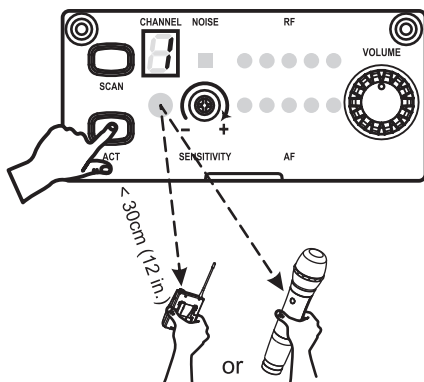

Fig. 4
III. ACT Synchronization. Fig. 4
2. Turn on the transmitter. Align the red color IR sync windows of both the transmitter and receiver at a distance of <30 cm (12 inch), Fig. 4.